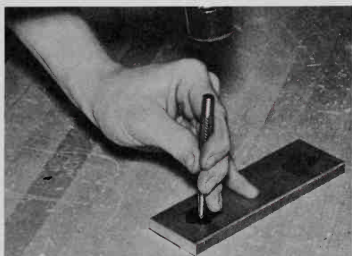

Fig. 4-48. Using a center punch.
1. Center punch hole locations as indicated by the prick punch marks which were made during the layout operation, Fig. 4-48. Make the opening with the center punch large enough to receive the point of the drill.